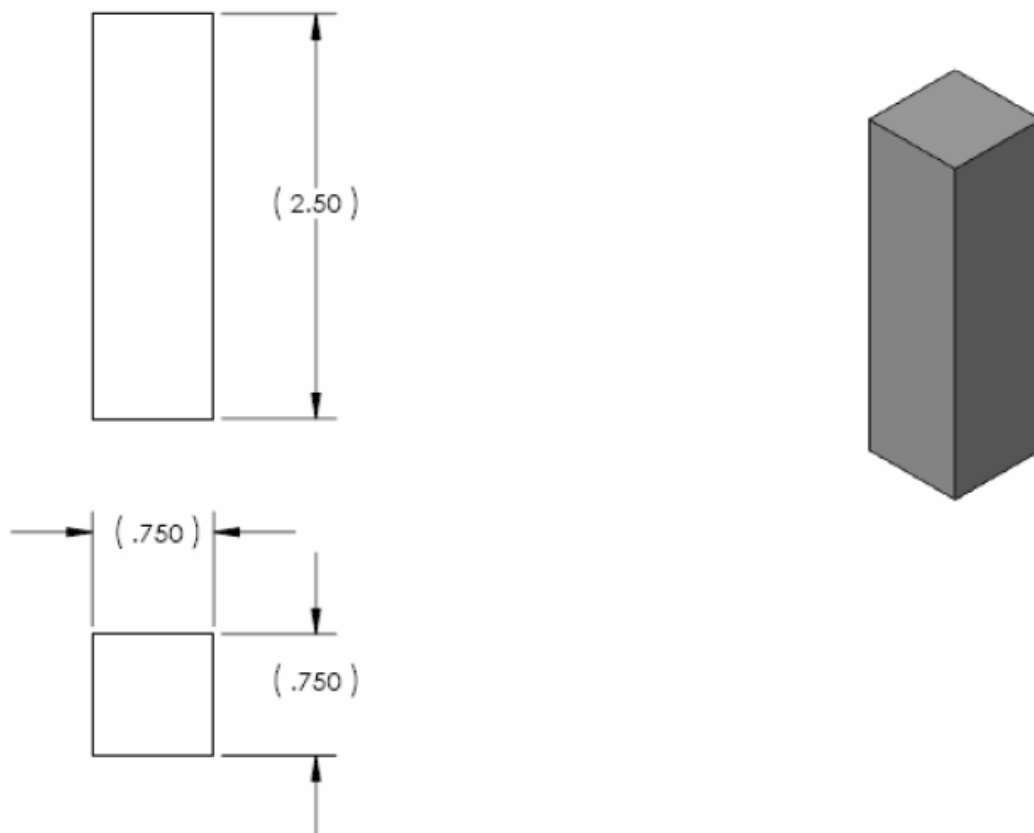

Figure 2—Metal Spacer
- 2.4 *Spacers*, steel, aluminum, or brass; measuring 0.75 ± 0.04 in. (19 ± 1 mm) \times 0.75 ± 0.04 in. (19 ± 1 mm) \times 2.5 ± 0.04 in. (6.4 ± 1 mm). See Figure 2.